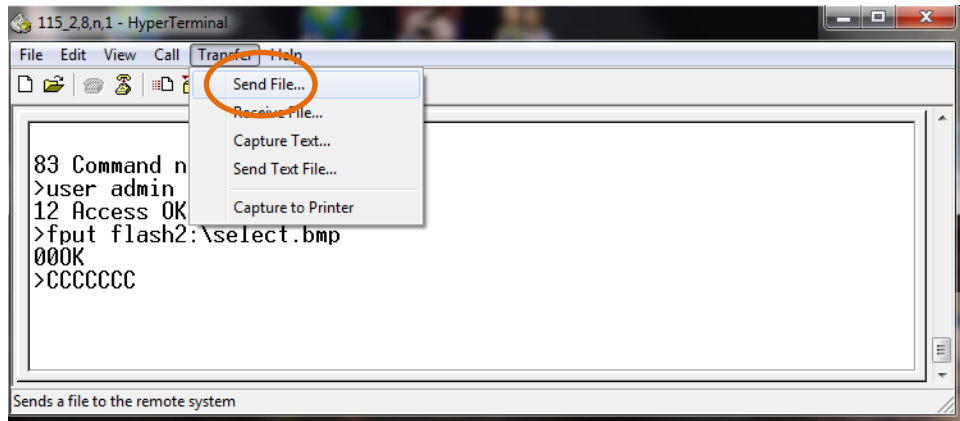

Figure C-6: HyperTerminal Starting Display
6. HyperTerminal should show OK on the screen then begin showing a series of capital letter "C"s indicating the IND570 terminal is ready to receive the file from the PC (Figure C-6).